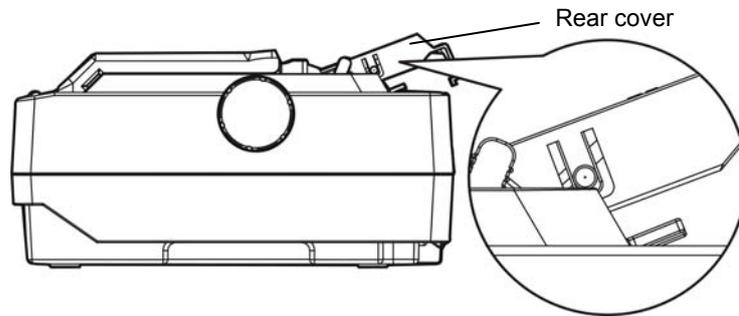

Figure 3-3 Adjust the position of the rear
3. Raise the printer rear cover to the proper position (shown as figure 3-3), then turn on the printer.